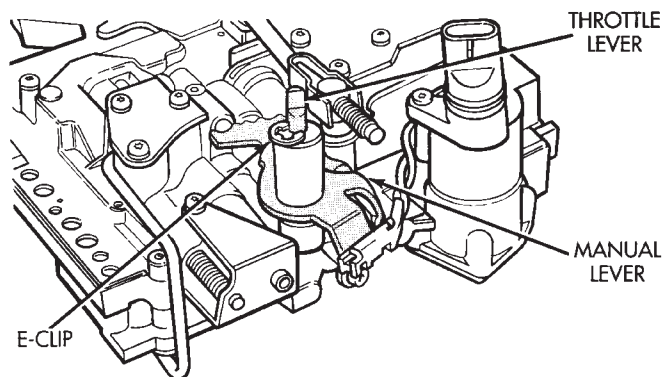
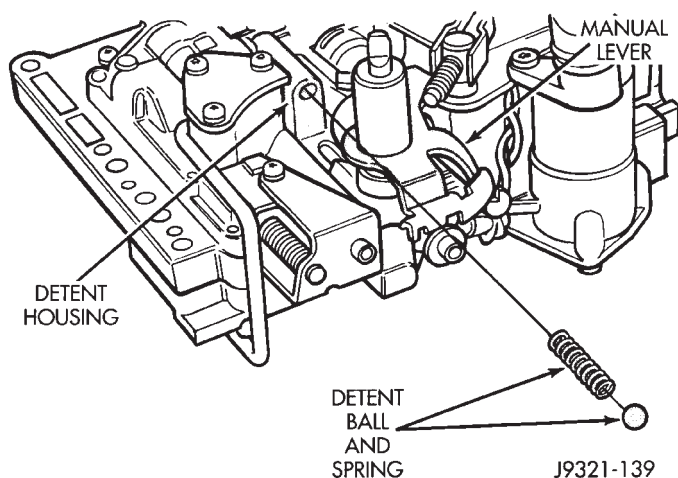

Fig. 93 Removing Throttle Lever E-Clip—46RH
Fig. 94 Detent Ball And Spring Removal
- (4) Remove E-clip that secures throttle lever in manual lever (Fig. 93).
- (5) Lift and rotate manual lever far enough to clear detent housing.
- (6) Remove retaining tool and remove detent ball and spring (Fig. 94).